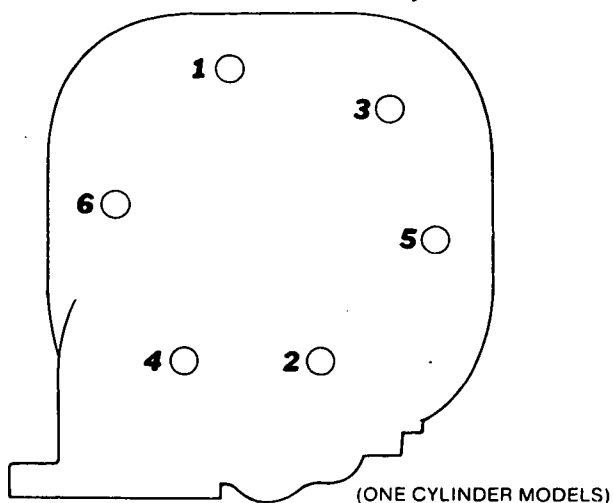

FIGURE 14. CYLINDER HEAD CAPSCREW TORQUE SEQUENCE
2. Tighten cylinder head capscrews in a clockwise rotation as shown in Figure 14 to the proper torque which is 44-46 foot pounds (60-62 N•m).